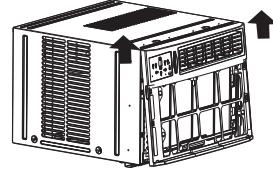

FIG. 3A
5. Gently lift front panel off unit. (See Fig. 3A.)